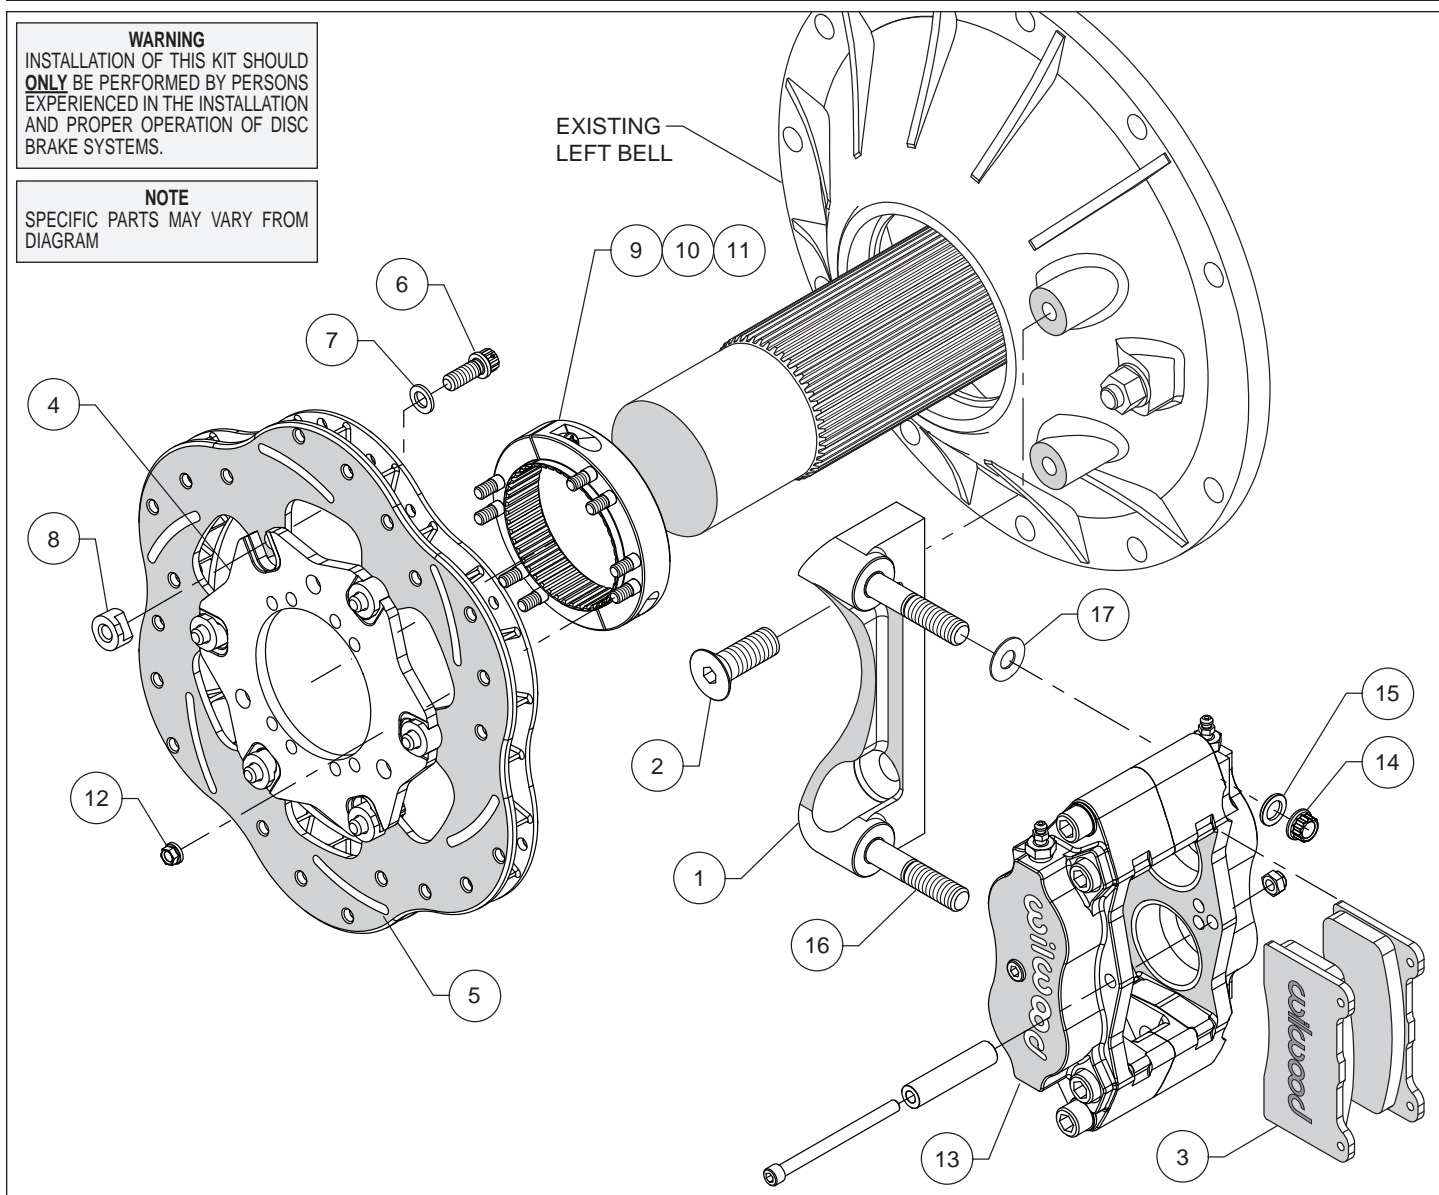

Figure 1. Typical Installation Configuration
• Orient the bracket (1) as shown in Figure 1 and install using bolts (2). Temporarily tighten bolts. **NOTE:** Bracket must fit squarely against the mounting bosses on the bell. Inspect for interference from casting irregularities, machining ridges, burrs, etc. Remove the bracket mounting bolts one at a time, apply red *Loctite*[®] 271 to the threads, and torque to 47 ft-lbs.
• With the T-notches of the rotor adapter (4) facing away from the rotor (5), attach adapter to rotor using bolts (6), washers (7) and t-nuts (8) as shown in Figure 1. Apply red *Loctite*[®] 271 to the bolt threads before installing. Finger tighten. After all t-nuts have been installed, torque bolts in an alternating sequence to 120 **in-lbs**. Please refer to Wilwood's data sheet DS-669 (available at www.wilwood.com/Pdf/DataSheets/ds669.pdf) for complete t-nut bolt kit installation instructions .
• Orient the axle clamp assembly (9, 10 and 11, pre-assembled) as shown in Figure 1 and install onto the rotor adapter (4) using nuts (12). Tighten nuts part way while still allowing clamp-to-rotor movement. The nuts will be torqued later, after aligning the rotor. **NOTE:** The axle clamp should be positioned inside of the rotor as shown in Figure 1, not offset, or outside of the rotor adapter.
- Lubricate caliper mounting studs (16) with lightweight oil. Initially place two shims (17) on each stud as shown in Figure 1. Mount the caliper (13) onto the bracket (1) using washers (15) and lock nuts (14), Figure 1. Temporarily tighten the lock nuts and view the rotor through the top opening of the caliper. The rotor should be centered in the caliper. If not, slide the rotor/adaptor assembly on the axle until the rotor is centered in the caliper. Tighten the clamp bolts (11) first, locking the clamp to the axle. Torque nuts (12) to 140 **in-lbs**.
- Remove the caliper center bridge pad retainer bolt, nut, and tube from the caliper. Insert the brake pads (3) into the caliper, with the friction material facing the rotor. Check that the top of the brake pad is flush with the outside diameter of the rotor. If not, adjust by adding or subtracting shims (17) between the caliper and the bracket. After the caliper pad height is set, torque the caliper lock nuts (14) to 30 ft-lb. Secure the brake pads in place with the center bridge pad retainer tube, bolt, and locknut. The locknut should be snug without play in the bolt or tube. Be cautious not to over tighten.